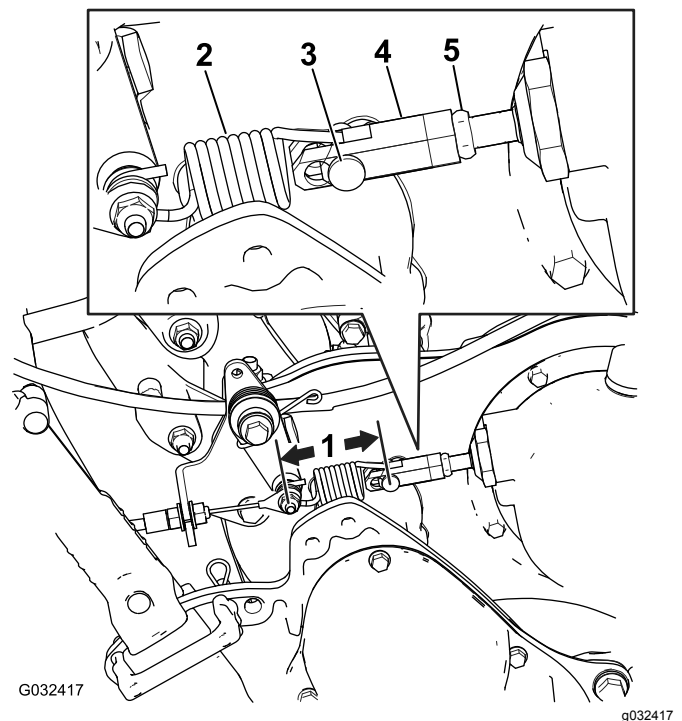

Figure 48
2. Measure the distance from the pin on either end of the traction-control spring (Figure 48); if it is not within 7.3 to 7.6 cm (2-7/8 to 3 inches), adjust the clutch according to the steps below.
- B. Loosen the jam nut on the turnbuckle and remove the clevis pin, disconnecting the spring from the turnbuckle (Figure 48).
- F. Measure the distance from the pin on either end of the traction-control spring (Figure 48); repeat steps A through F until it is within 7.3 to 7.6 cm (2-7/8 to 3 inches).